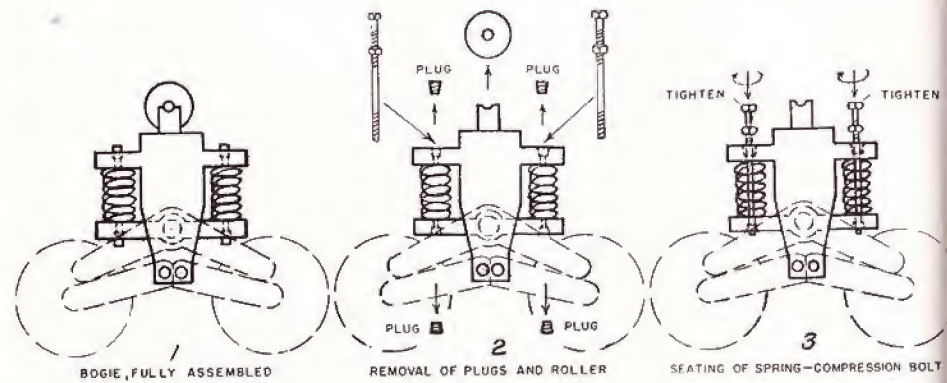

FIGURE 53.—Disassembly of bogie; first steps.
f. To replace volute springs.—(1) Slacken and disconnect the track.
(2) Remove roller from top of suspension.
(3) Remove plugs above each spring and insert jack studs into threaded plate at bottom of spring.
(4) Relieve tension on wheels by screwing jack nut on the stud against the suspension bracket as shown in figures 53 and 54.